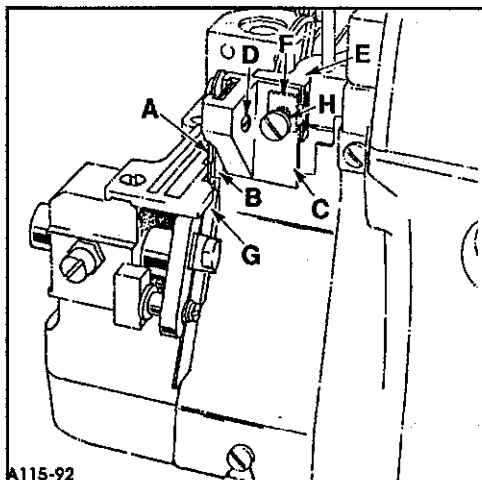

Fig. 16
Insert upper knife (A, Fig 16) and clamp bar (B) into upper knife holder (C) and snug screw (D). Turn handwheel in operating direction until upper knife driving arm (E) is at its lowest point of travel. Insert upper knife clamp nut (F) and upper knife holder (C) into upper knife driving arm slot holding it firmly against lower knife (G). Position the front cutting edge of the upper knife so it is  $1/64$ " to  $1/32$ " (.4mm to .8mm) below the cutting edge of the lower knife. Tighten screw (D). Slide upper knife holder (C) right or left until the desired seam width is achieved and tighten screw (H).